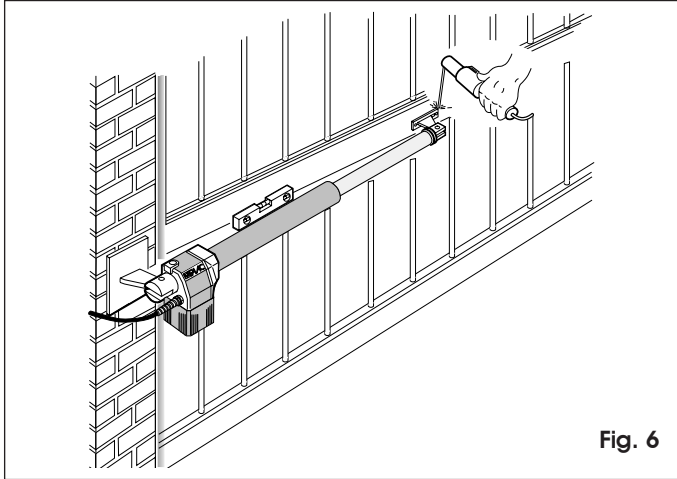

Fig. 6
- 8) Close the gate leaf and, keeping the operator perfectly level, locate the leaf attachment position of the front bracket (fig. 6).